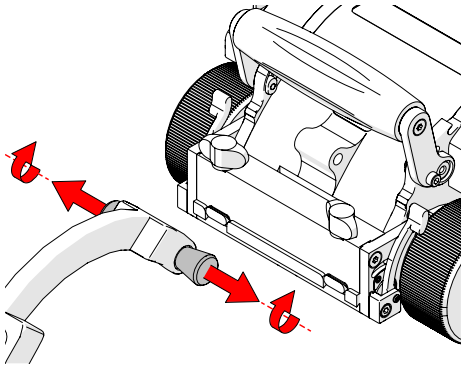

Fig. 101 - Pull pins and twist
1. Pull the pins and twist a quarter turn latching the pins in a retracted state (Fig. 101).